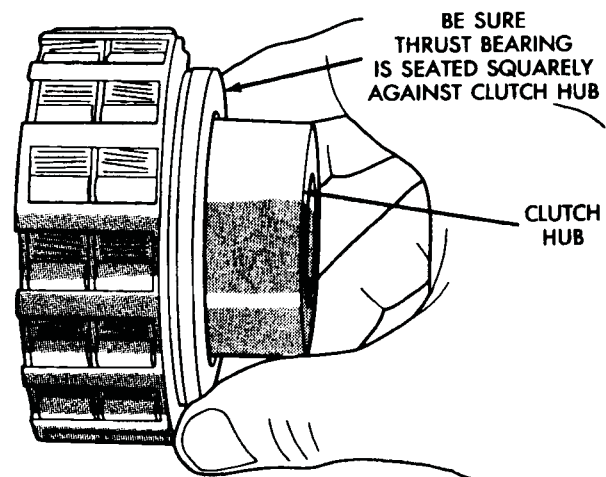

Fig. 49 Overrunning Clutch Thrust Bearing Installation
(10) Install thrust bearing on overrunning clutch hub (Fig. 49). Use petroleum jelly to hold bearing in place during installation. **Bearing fits one way only. Be sure bearing is seated squarely against hub. Reposition bearing if it does not seat squarely.**